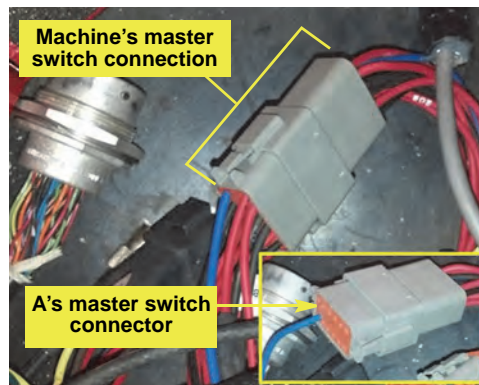

Figure 6b: Cable A's master switch connection
b. Inside the cabling compartment, locate the machine's master switch connection. Disconnect the master switch and connect cable A's single-blue wire connector (Figure 6b).